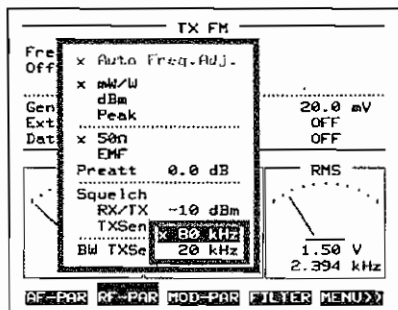

Fig. 1.7: The menu item BW TXSens conceals a submenu that allows you to select IF bandwidth.
- A submenu opens on the monitor that offers given settings (Fig. 1.7). Mark the required settings with the cursor bar and select them with **UNIT/SELECT**. These menu items are not crossed because the associated function must always have one of the offered values.